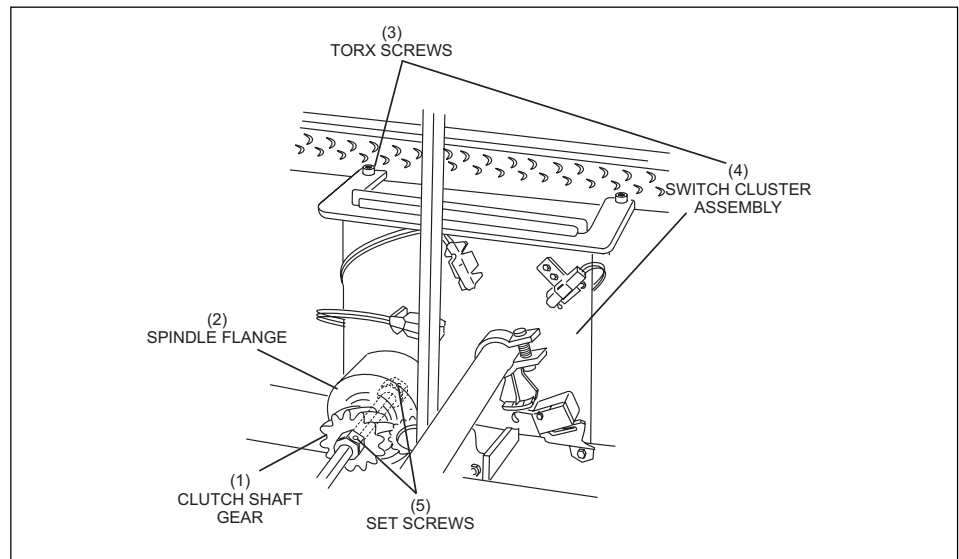

Figure 8-14. Remove Hardware.
1. When removing the spotting tong clutch and shaft, loosen the 3 mm allen head set screw which secures the clutch shaft gear to the shaft and slide it toward the spotting tong clutch. *Figure 8-14.*